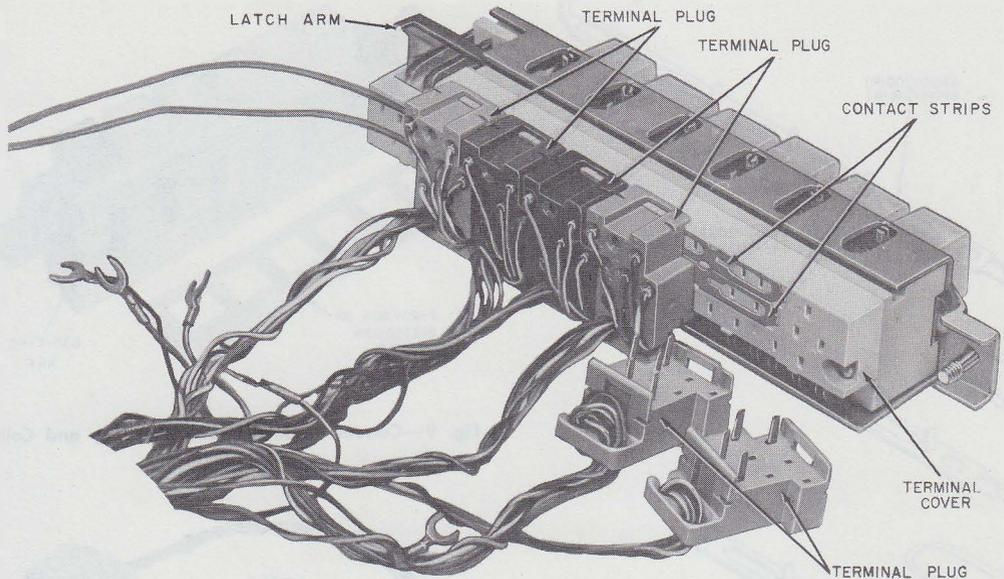

Fig. 7—Typical Connections to 635-Type Key
- (1) Loosen captive screws at each end of key module.
- (2) Lift key out of key frame disengaging key latch arm from pivot bar.
- (3) Turn key counterclockwise and unplug 508-type and 509A plugs (Fig. 7).
- (4) Remove contact strips from key module.
- (2) Connect 508-type and 509A plugs to proper receptacles (Fig. 7).
- (3) Position key in key frame making certain that latch arm engages in the pivot bar.
- (4) Secure key with captive screws at top and bottom of key.
- (5) Test keys for proper operation (random test from module to module).